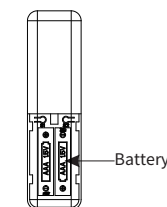

Figure 23
2. Insert the battery according to the indicated polarity (Figure 23).